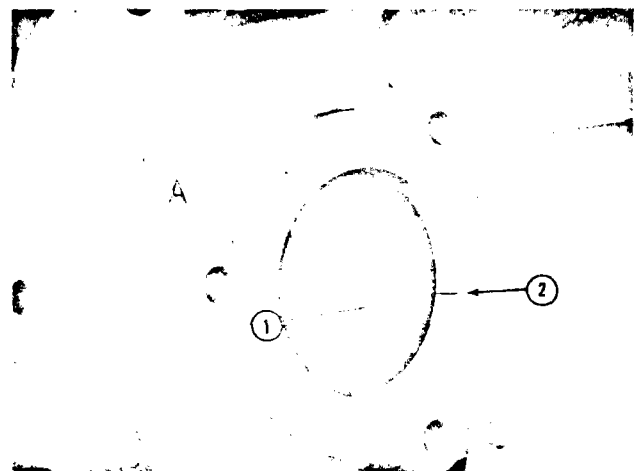

Fig. 2-60. (K21918) Valve set marks on right bank flywheel and housing — KT(A)-2300
2. When barring the engine from the right bank at the flywheel housing "A" VS timing marks on the flywheel (1, Fig. 2-60) must align with the scribe mark (2) when viewed through the opening marked "A" on the flywheel housing.